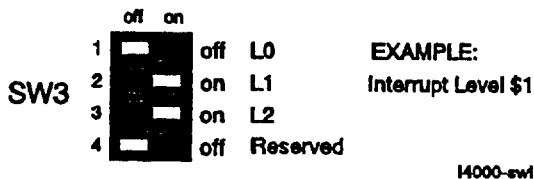

Figure 3 Interrupt request Level
- See Figure 3 Switch value L0 = 1